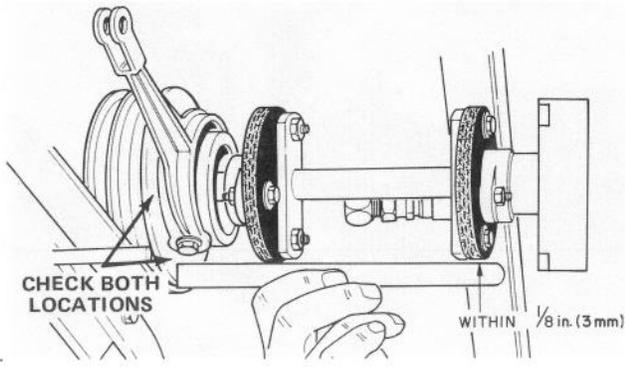

Figure 57
1. Check alignment of drive couplings, place square end of ruler or scale against face of drive pulley and bottom of coupling retainer to check vertical alignment (Fig. 57). Also, place ruler or scale against face of drive pulley and side of coupl-
ing to check horizontal alignment (Fig. 57). If there is more than 1/8 inch (3 mm) between ruler or scale and opposite coupling retainer, or the scale is more than 1/8 inch (3 mm) higher than bottom of coupling during vertical alignment check or scale does not align within 1/8 inch (3 mm) of side of coupling, an adjustment is required. To correct for misaligned drive coupling, proceed to step 2.